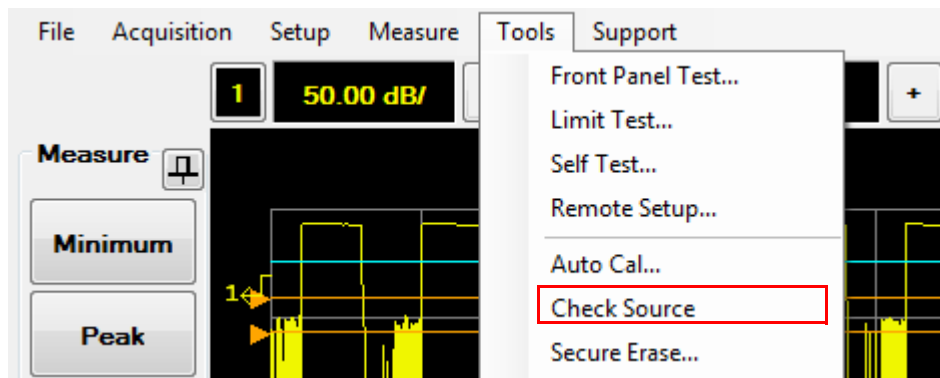

Figure 2-143 Check Source selection in the Tools menu
- 1 Select **Tools > Check Source** on the toolbar as shown in Figure 2-143.